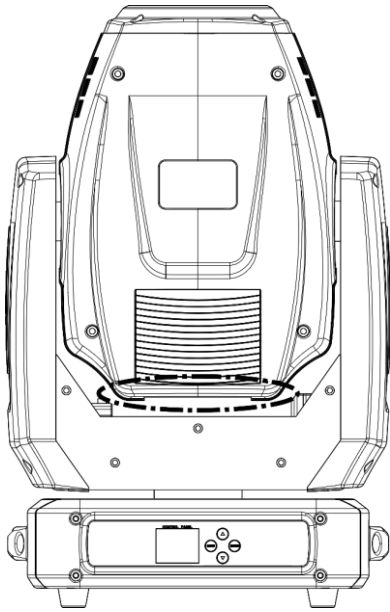

Fig. 03
- 02) Remove the 4 lamp housing screws on the back of the moving head (fig. 03).